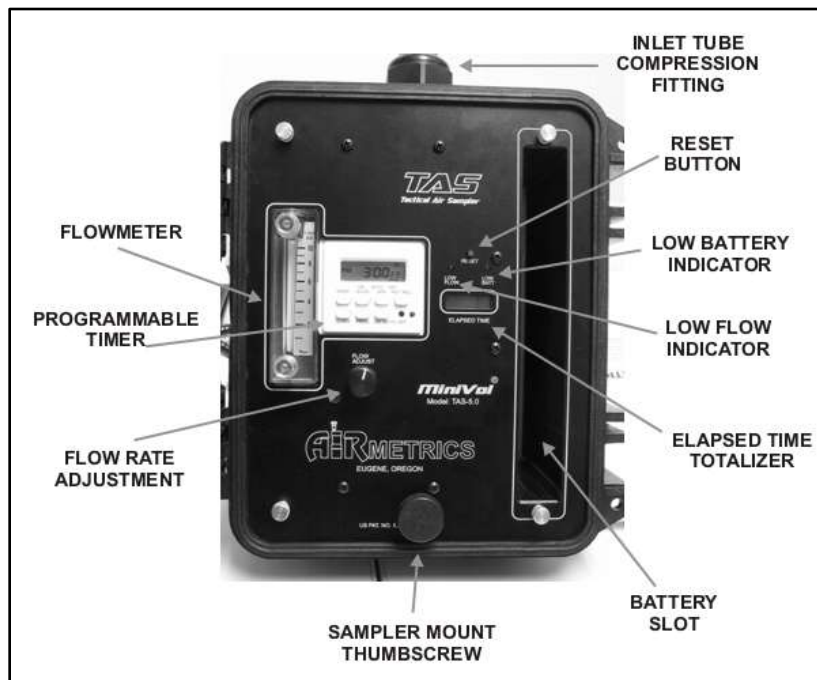

Figure 3.1 - Sampler Layout
The following controls (see Figure 3.1) are used in the operation of the MiniVol™ TAS.
When a low flow cutoff condition arises, the error can be cleared by pressing the "Reset Button" twice. (see Figure 3.1).
When a low battery condition arises, the error can be cleared by pressing the "Reset Button" twice. (see Figure 3.1).
8. Using the Flow Rate Adjustment control (see Figure 3.1), set the flowmeter within specifications for the project temperature and pressure conditions. Take the reading of the flowmeter from the center of the ball. (See Section 3.5 "Flow Rate Adjustment").